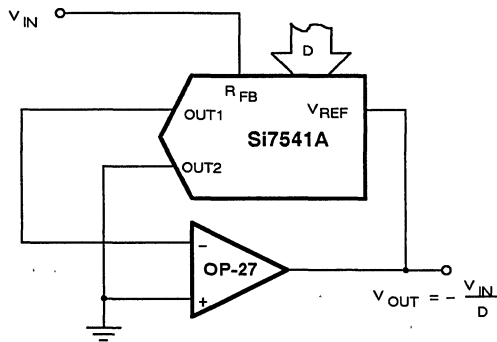

Figure 34. Si7541A as a Programmable Gain Element
**Programmable Gain Element.** The Si7541A can be configured as the feedback element of an op amp, as shown in Figure 34. In this circuit, the effective feedback resistance can be controlled by a 12-bit digital word. The output voltage is given by  $V_O = -V_{IN}/D$ , where D is a digital fraction. Therefore, the digital word 0000 0000 0000 is not permissible because it implies infinite gain. Care must be taken not to saturate the op amp when the digital input is small. At the other extreme, a 1111 1111 1111 input results in  $V_O = -(4096/4095) V_{IN}$ .